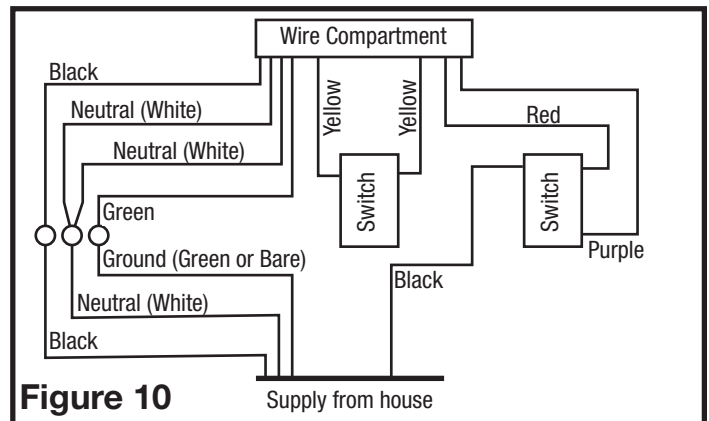

Figure 10
4. Secure the electrical wires to the housing with an approved electrical connector. For two speed fans wired for continuous ventilation, connect the White wires of the fan to the White (Neutral) wire from the power source. Connect the ground wire from the house to the green wire from the fan housing. Connect the Black wire of the fan to the Black wire (Hot) from the power source. The fan will operate on low speed continuously and boost to high upon a rise in humidity. Using a properly grounded switch, connect 1 yellow wire to each side of the switch. Closing the switch will change from normal to high speed. Using a properly grounded standard duplex toggle switch (such as Leviton 5224-2W, not included) connect the Black wire from the supply to one side of the top and bottom switch. Connect the Red wire (light) from the fan housing to the other side of the top switch and connect the Purple wire (night light) from the fan housing to the other side of the bottom switch. A manual override switch (not included) can be used to provide a manual fan Off function (Figure 10).